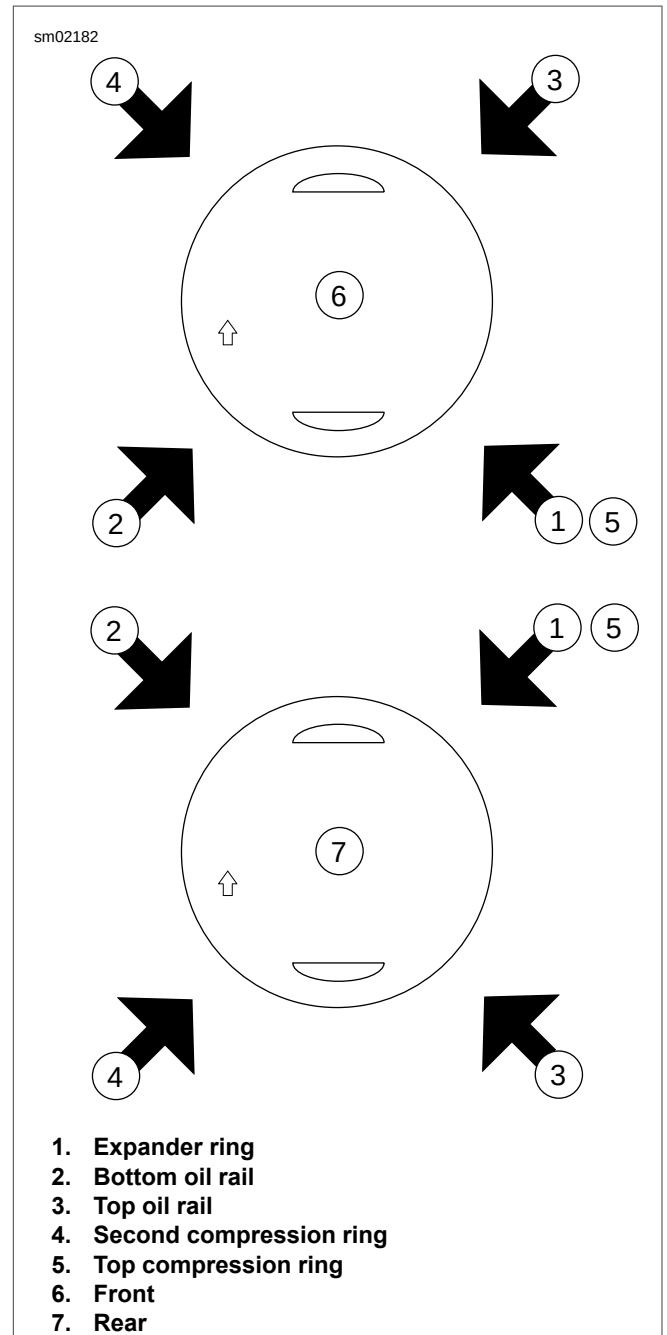

Figure 3-68. Piston Ring Gap Alignment
8. See Figure 3-68. Verify the ring gaps are still properly staggered.